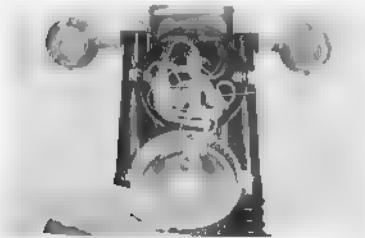

Fig. 4.5 Disconnecting electrical leads
CT 90 (Fig. 4-5)	Up-handle
- 4 Remove the horn, turn signal and dimmer switch lead ① by loosening the screws at the front of the headlight case and disconnecting the connectors within the headlight case (Fig. 4.5)